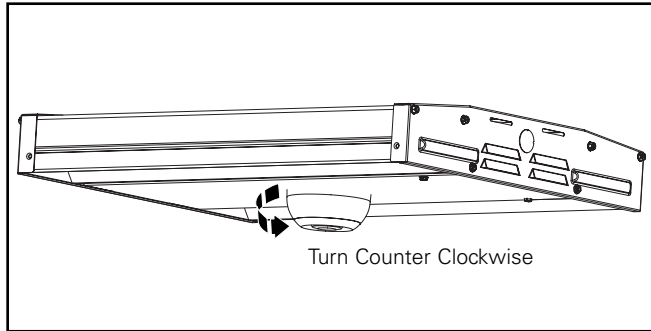

Figure 1.
1. Rotate sensor counter clockwise. (Figure 1.)